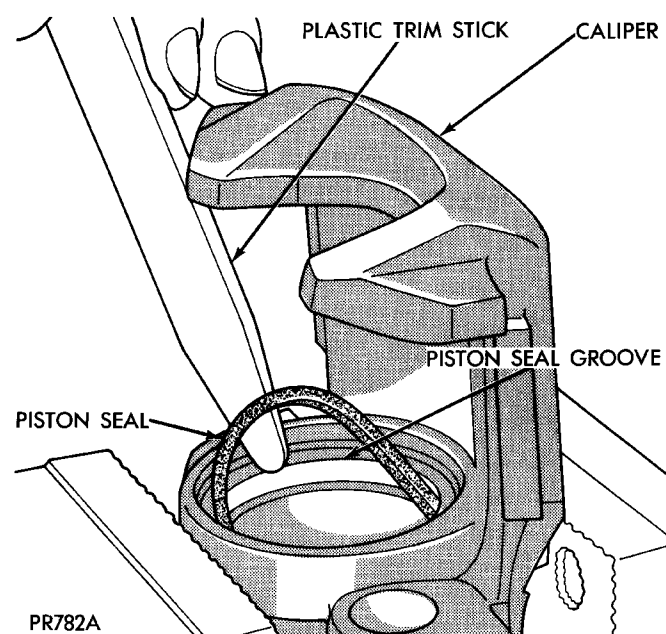

Fig. 176 Removing Piston Seal From Caliper
(8) Using a soft tool, such as a plastic trim stick, work piston seal out of its groove in caliper piston bore (Fig. 176). Discard old seal. **Do not use a screw driver or other metal tool for this operation, because of the possibility of scratching piston bore or burring edges of seal groove.**
(9) Clean all parts using alcohol or a suitable solvent and wipe dry **using only a lint free cloth**. No lint residue can remain in caliper bore. Clean out all drilled passages and bores. **Whenever a caliper has been disassembled, a new boot and seal must be installed at assembly.**
(10) Inspect the piston bore for scoring or pitting. Bores that show light scratches or corrosion can usually be cleared of the light scratches or corrosion using crocus cloth. Bores that have deep scratches or scoring should be honed. Use Caliper Hone, Special Tool C-4095, or equivalent providing the diameter of